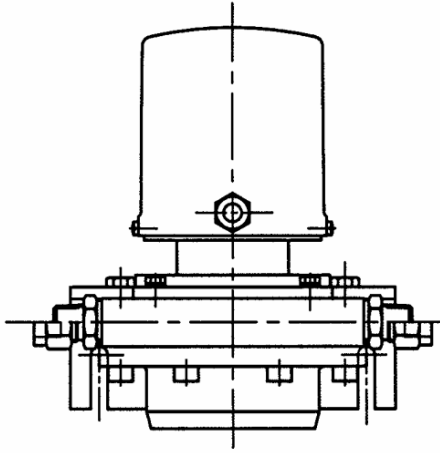

Fig. 5
1. Install suitable pipe brackets at each side of flowmeter (Fig. 5).
2. Install the flowmeter in a horizontal pipe section, as shown in figures 5, 6 or 7, such that the counter or pulse transmitter box is on top.